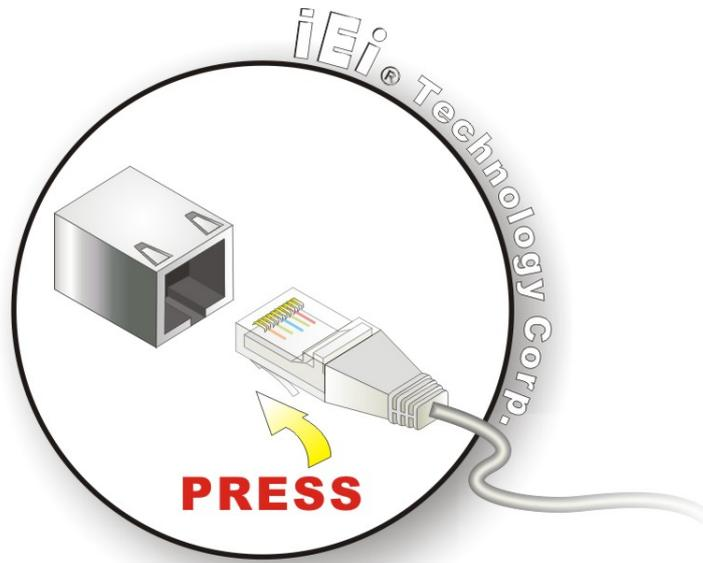

Figure 3-18: LAN Connection
- Step 2:** **Align the connectors.** Align the RJ-45 connector on the LAN cable with one of the RJ-45 connectors on the DRPC-100. See **Figure 3-18**.